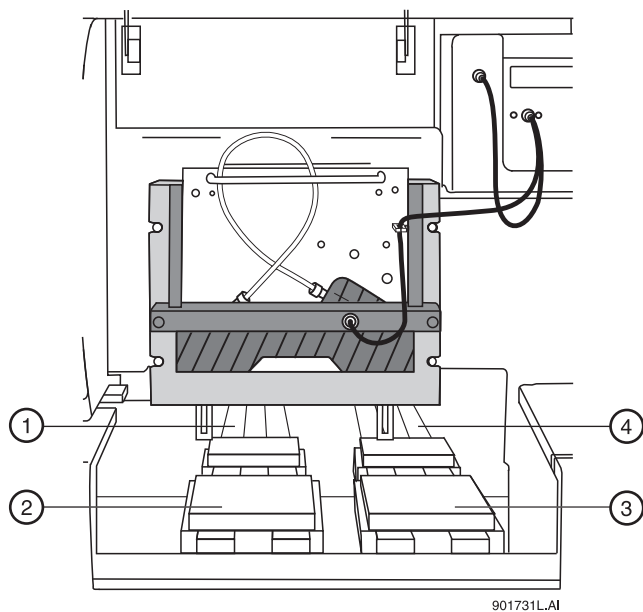

Figure 3.16 Buffer/Sample Tray Installation
3. Install the 48 position sample tray or 96-well plate in the back location as shown in Figure 3.16.
4. Install the 36 vial buffer trays in the forward location as shown in Figure 3.16. Refer to NOTE above.